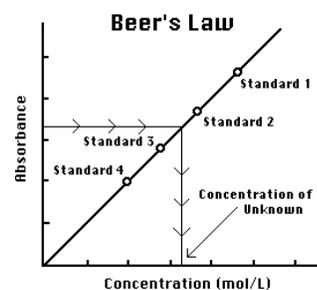

Figure 1
The concentration of an *unknown* copper (II) sulfate solution is then determined by measuring its absorbance with the V-spec. By locating the absorbance of the unknown on the vertical axis of the graph, the corresponding concentration can be found on the horizontal axis (follow the arrows in Figure 1). The concentration of the unknown can also be found using the slope of the Beer's law curve.